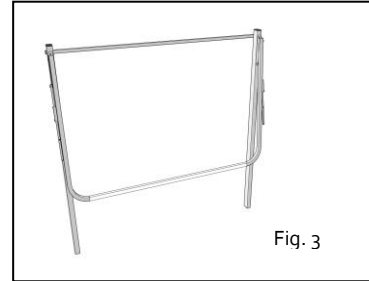

Fig. 3
N.B. *The bent side arms should face toward each other (Fig. 3).*